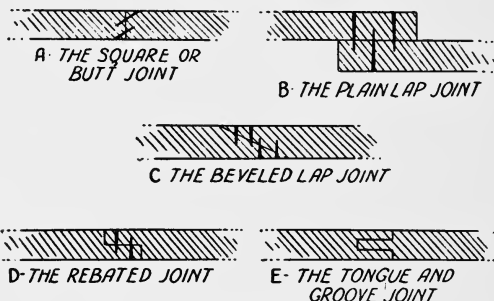

FIG. 3. HOW EDGE JOINTS ARE MADE
*Edge Joints.*— There are three easy ways to make flat, or edge joints and these are (a) the *square*, or *butt joint*; (b) the *lap-joint* and (c) the *matched joint*, all of which are shown in Fig. 3.